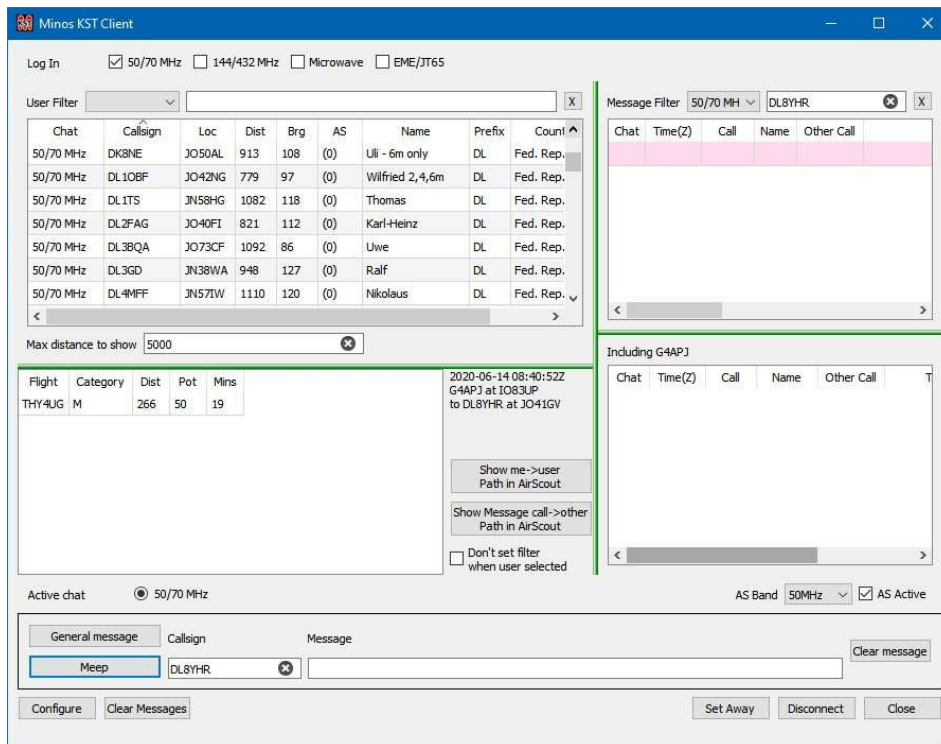

Figure 138 – Airscout operational in KST Client
Once the connection is established¹⁴⁰ additional information (AS) is displayed in the User panel (on the left), and a new panel appears bottom left (Figure 138).